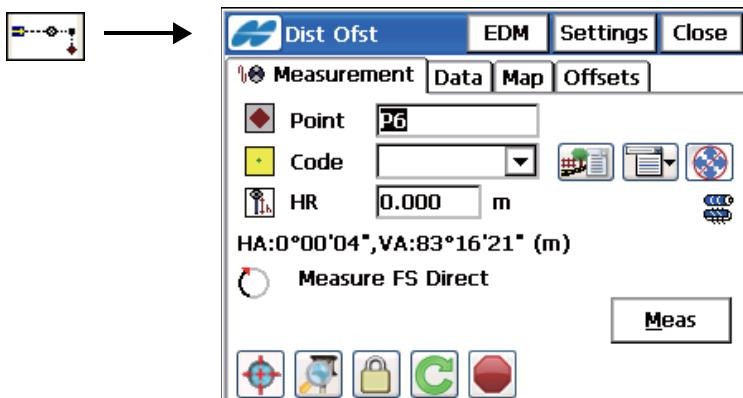

Figure 9-14. Distance Offset – Measurement Tab
The *Measurement* tab (Figure 9-14) on the *Distance Offset* screen contains the parameters for definition of a point. You can add or subtract distances, horizontally and vertically.
- **Meas** – performs the measurement (Figure 9-14 on page 9-14).
- **Settings** – opens the **Mode** screen for setting the sideshot mode. (Figure 9-14 on page 9-14)